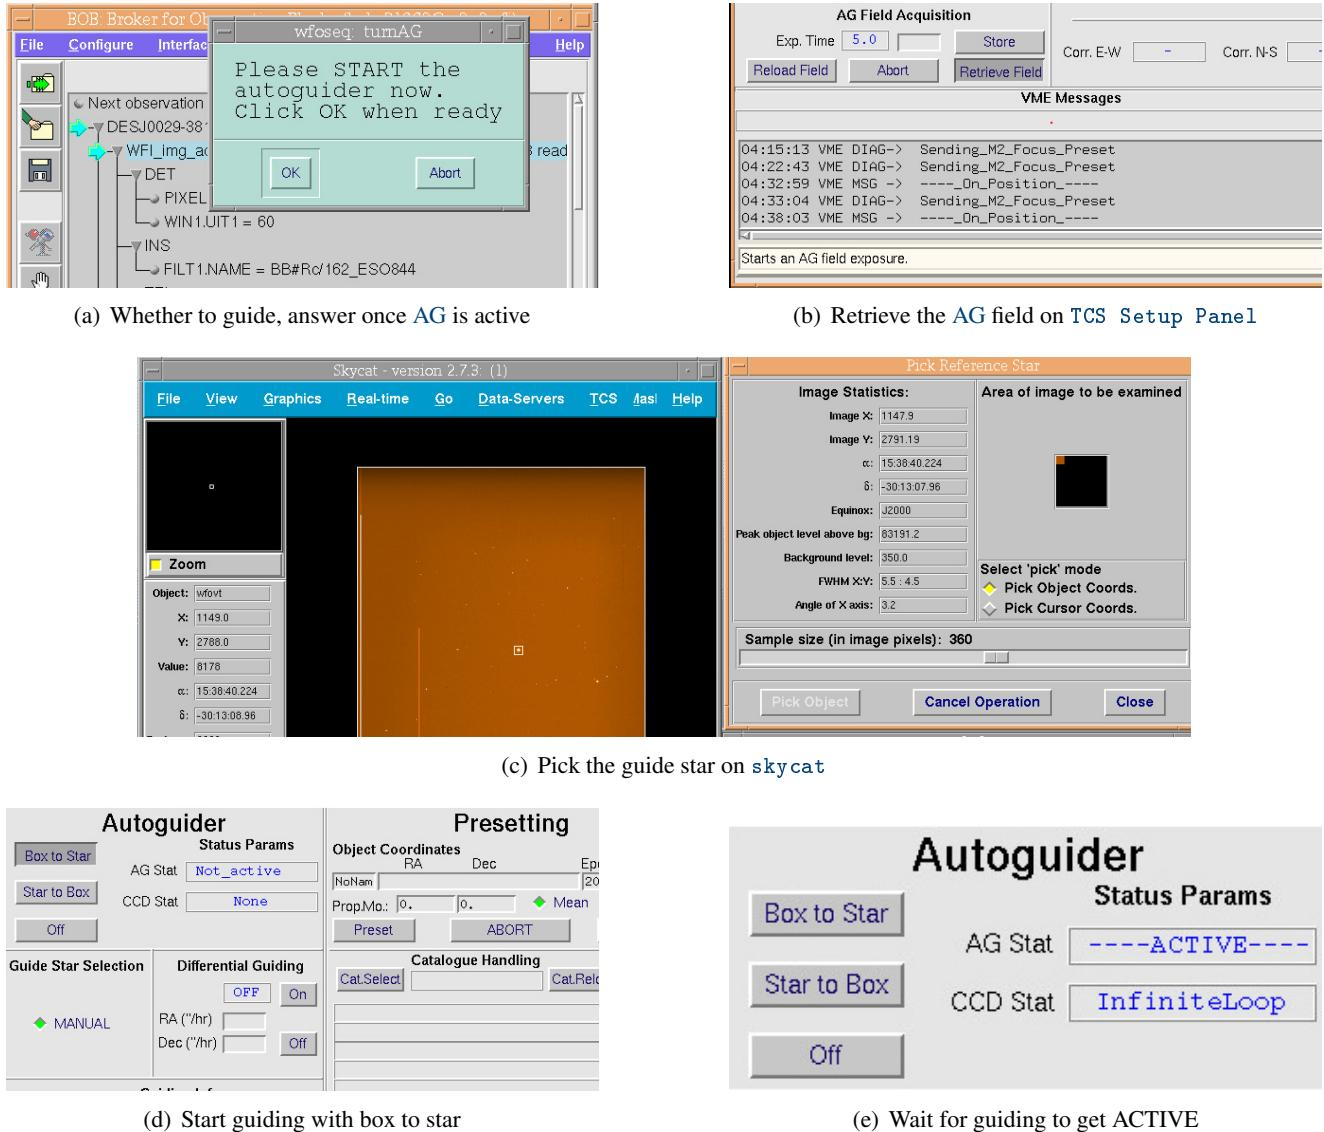

Figure 6.2: WFI guiding for targets outside the solar system
- A. On the **TCS** workstation, acquire the guide field (Fig. 6.2(b), p. 56)
- C. On the autoguider windows (Fig. 11.3, p. 103), choose the guide star (Fig. 6.2(c), p. 56)
- D1. Activate the guiding (Fig. 6.2(d), p. 56)
- D2. Wait for guiding to start (Fig. 6.2(e), p. 56)
- E. Proceed with the observation, typically by clicking on pop-up asking for guiding (Fig. 6.2(a), p. 56)